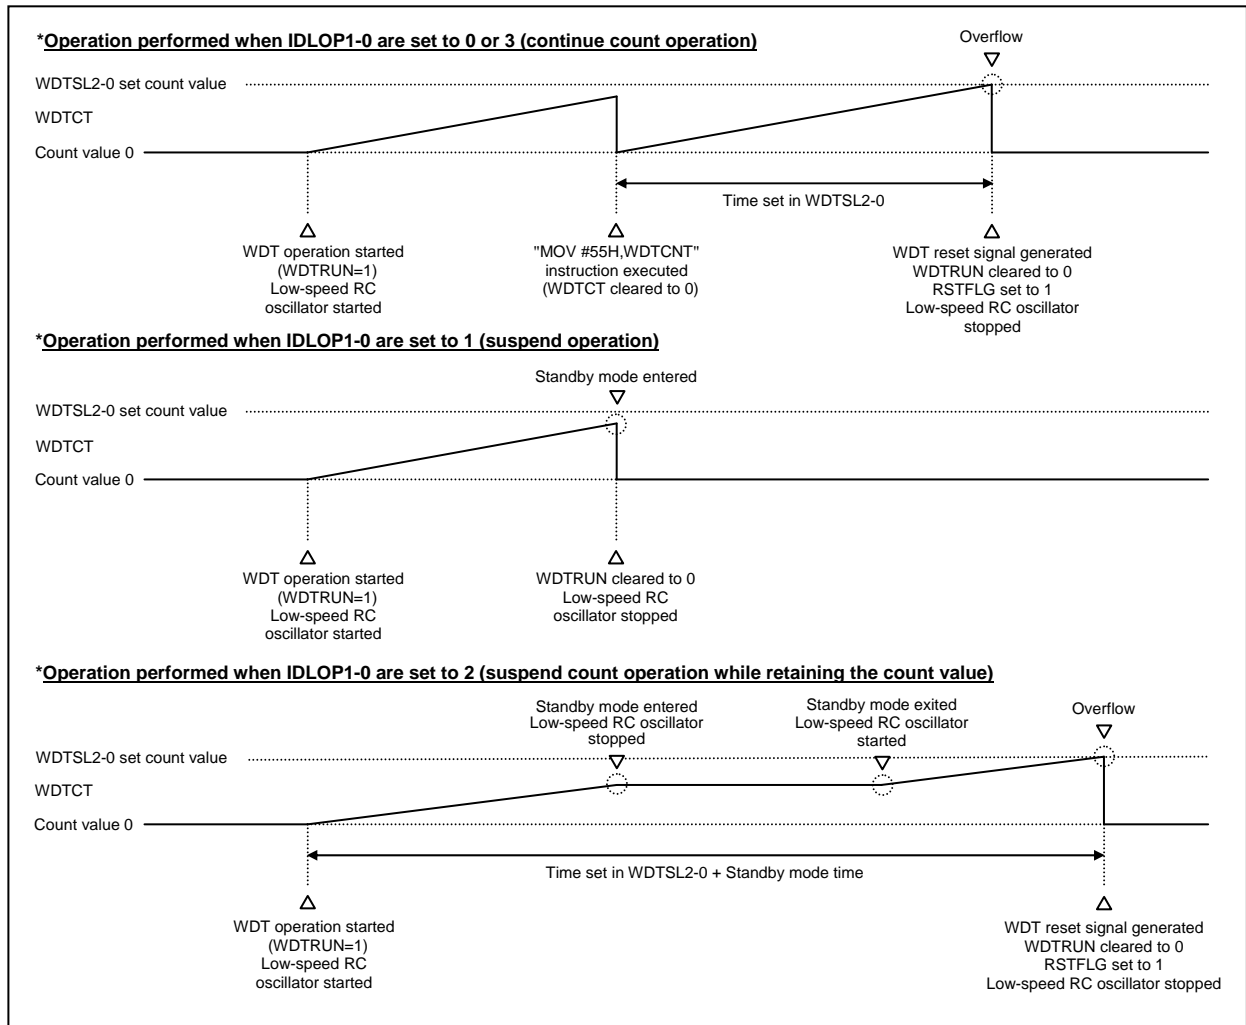

Figure 4.5.2 Sample Watchdog Timer Operation Waveforms
- \* See Figure 4.5.2 for details on WDT operation.
\* See Figure 4.5.2 for details of WDT operating modes.